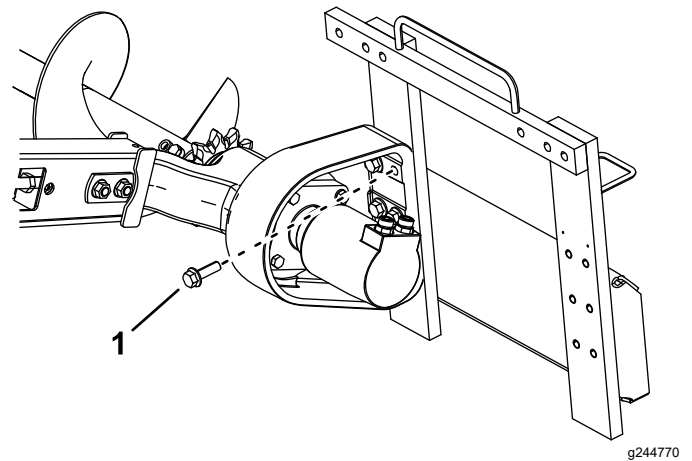

Figure 9
1. Bolt (6)
5. Attach the head to the frame with the 6 bolts removed previously (Figure 9).